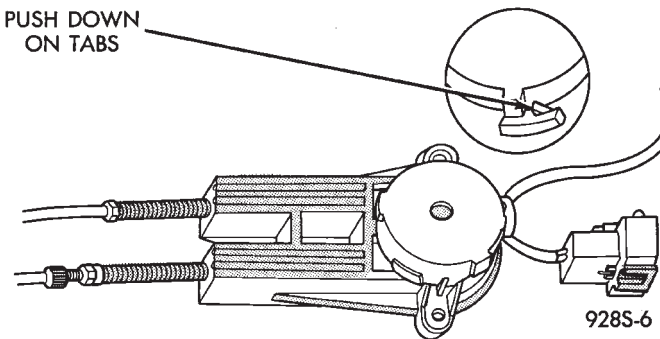

Fig. 8 Assist Spring Cover
- (8) Remove assist spring by releasing the tabs on the opposite sides of the spring, do not remove spring from its case (Fig. 8).